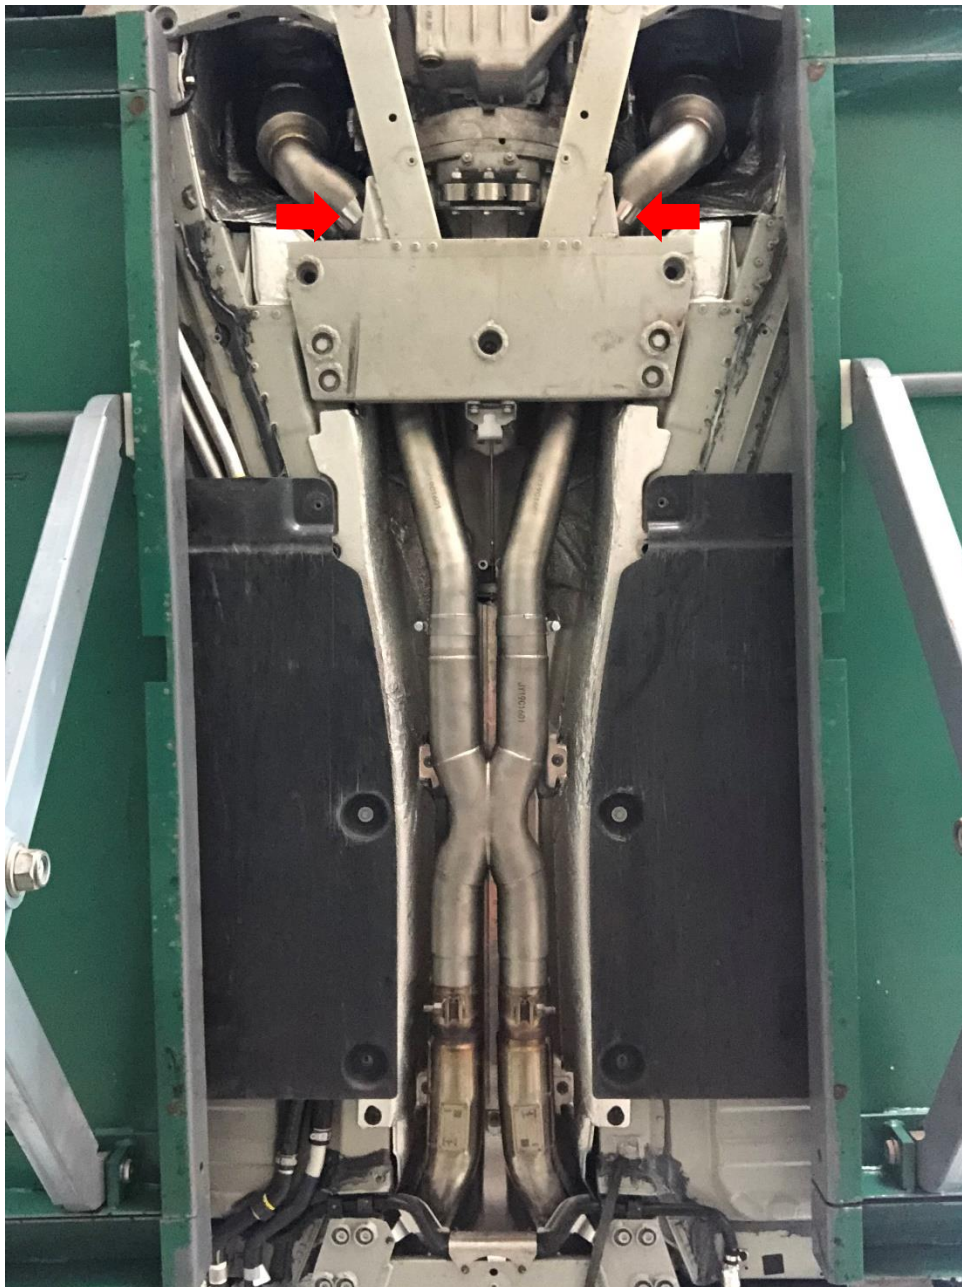

Fig. 11
2. Install the cat pipe, lock the front and rear clamps first, and then install to adjust the mid pipe. (Fig 11)